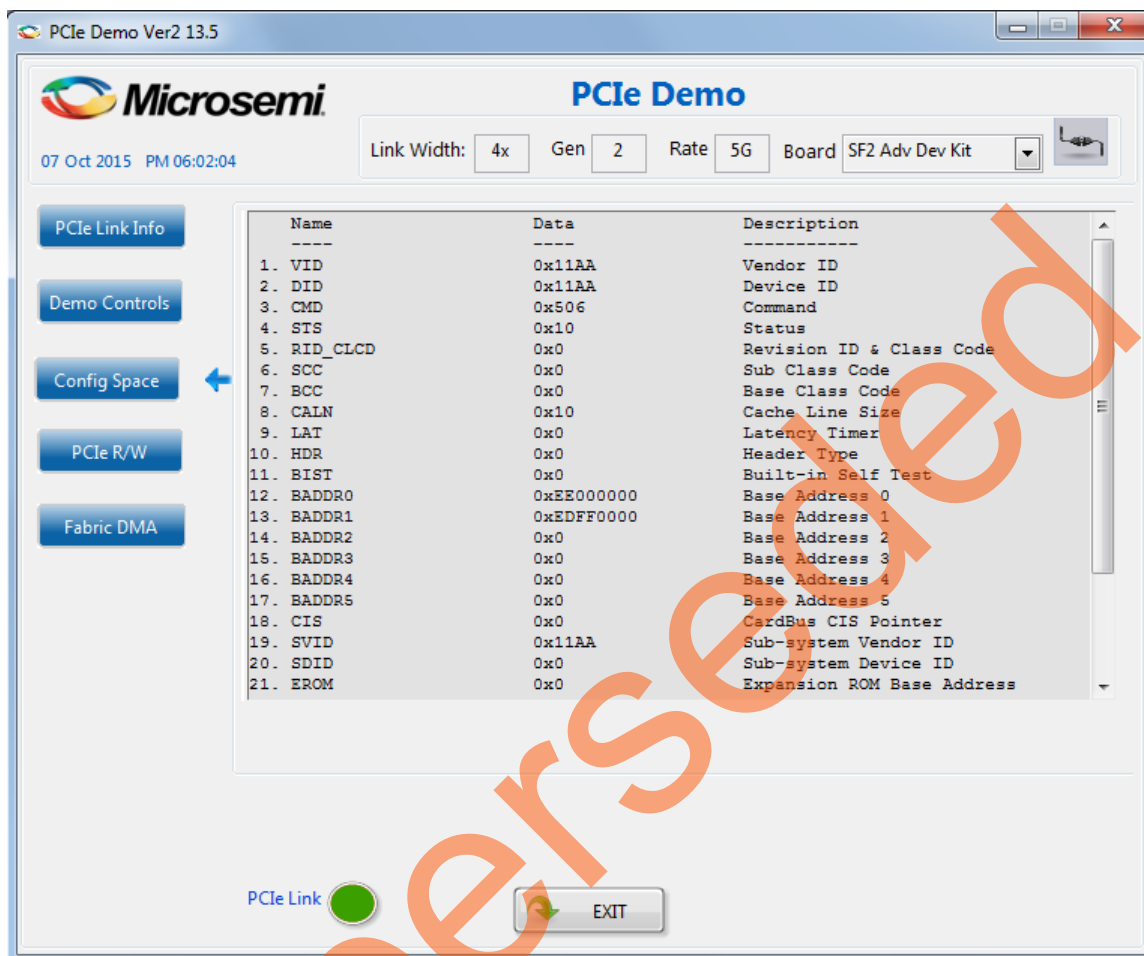

Figure 22 • PCIe Configuration Space
12. Click **Config Space** to see details about the PCIe configuration space. Figure 22 shows the PCIe configuration space.